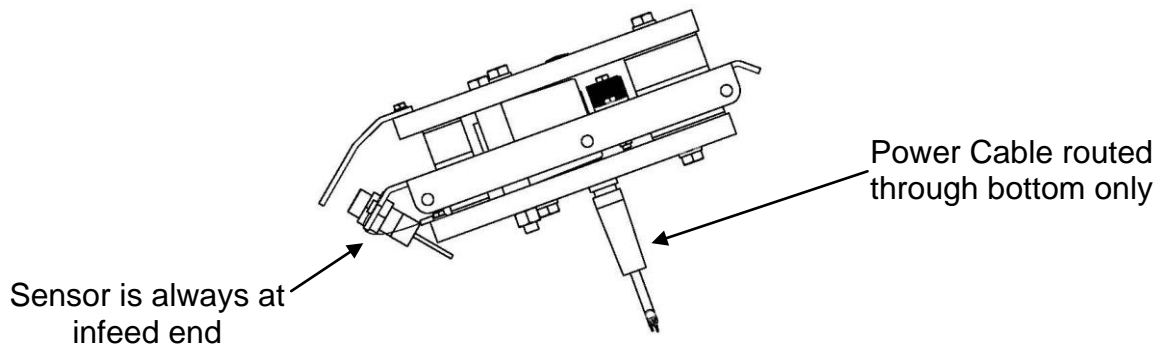

Fig. 9 Drive sensor & magnet orientation
- Replace the drive in the reverse order of steps 1 through 4. The MINI VF ADVANCE drive must be oriented correctly to avoid an excessively high current draw by the coil. When replacing a MINI VF ADVANCE drive unit, the drive must be oriented so that the sensor flag is at the top, infeed end of the drive, and the cable exits the drive unit at the lower, middle end of the drive (See Figure 9).
Drive installed backwards.	Reverse drive. (See fig. 9)